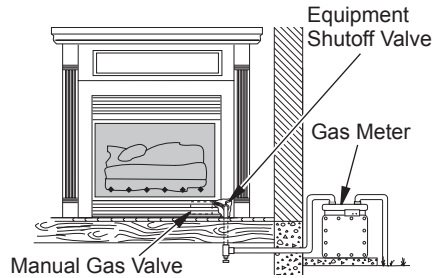

Figure 18 - Checking Gas Joints for Natural Gas Fireplace
3. Check all joints from gas meter for natural gas or propane/LP supply to equipment shutoff valve for propane/LP gas (see Figures 18 or 19). Apply noncorrosive leak detection fluid to all joints. Bubbles forming show a leak.
4. Check all joints from equipment shutoff valve to gas valve (see Figure 18 or 19). Apply noncorrosive leak detection fluid to all joints. Bubbles forming show a leak.